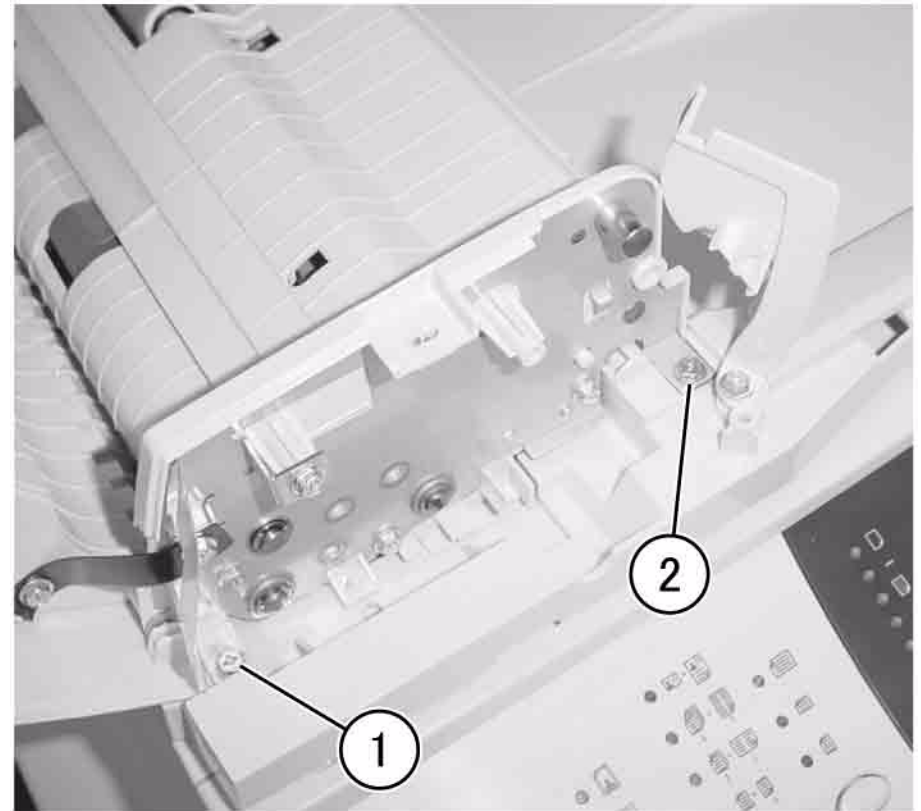

Figure 4 Remove the Screws
- (1) Remove the Screws at the rear (Figure 4).
- (2) Remove the Screw (long).
- (3) Remove the Screw to remove the Ground Wire.